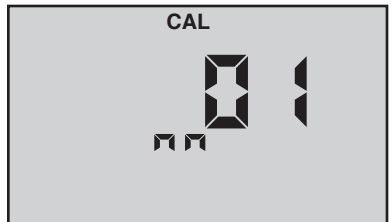

Figure 14
7. Press $\left(\frac{\text{CAL}}{\text{MCLR}}\right)$ to accept the change (new month), (see Figure 14).